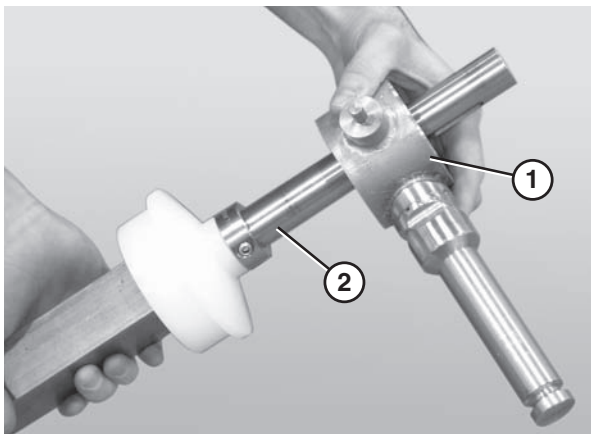

Figure 74
- Slide the second bearing shaft assembly, or the motor mount bracket (**Figure 74, item 1**), onto the longer end of the drive spindle (**Figure 74, item 2**).